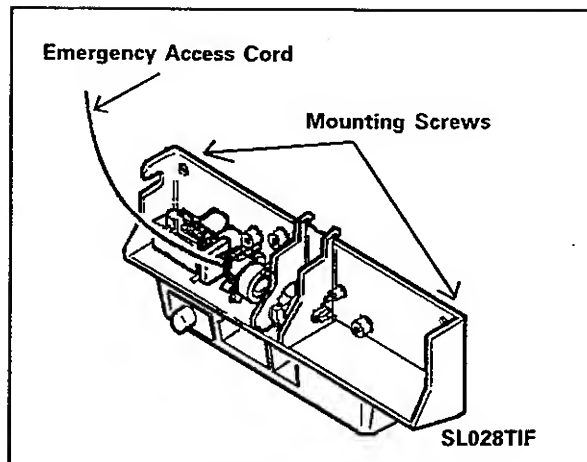

Figure 5-13
5. Remove two 5/16" hex-head screws securing the switch support to the metal shroud support (*Figure 5-13*).